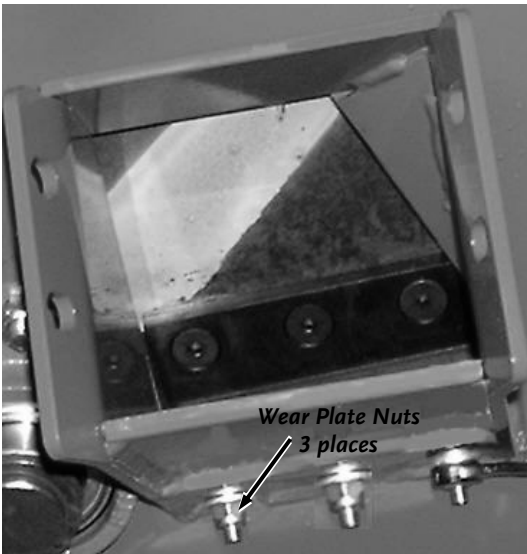

Figure 25
4. To adjust the Wear Plate Gap, loosen the three 1/4" Nuts using a 7/16" Wrench (**Figure 25**). Now slide the Wear Plate up or down (in or out) to achieve the correct gap setting.